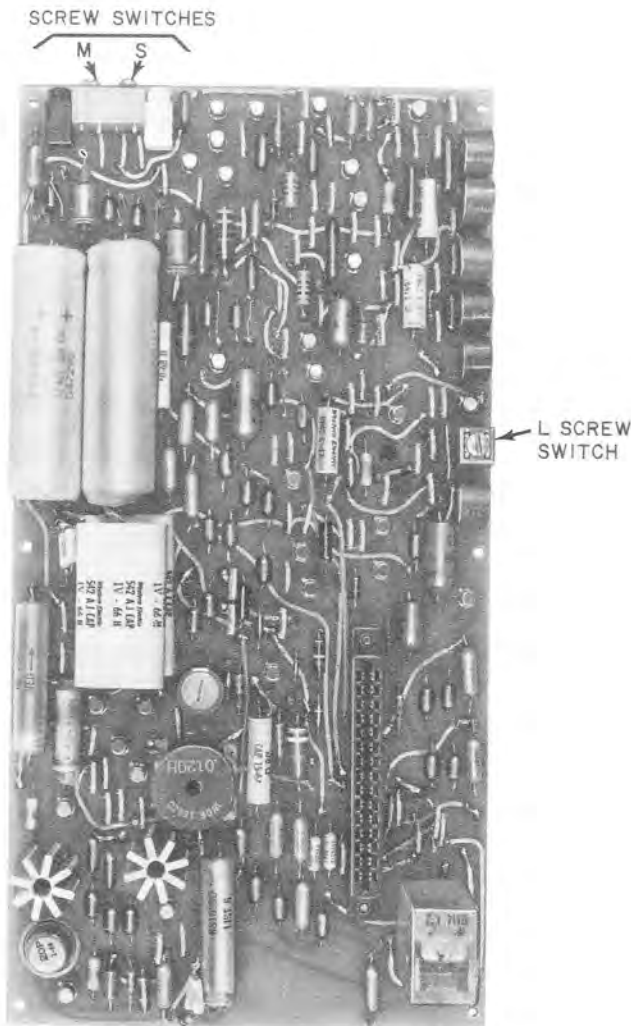

Fig. 16—939A Cable Equalizer
**3.17** Select FW1 or FW2 circuit pack (Fig. 6), 939A or B cable equalizer (Fig. 16 and 17), or 877A or B network (Fig. 18) according to the type of service, length, type, and gauge of cable as outlined in Tables B, C, and D. Use an FW3 circuit pack if the 2C Video Telephone Station is for a single line installation behind a 101 ESS PBX or is used as a maintenance set at a No. 5 crossbar central office.
**3.22** The 939A or B cable equalizers (Fig. 16 and 17) have screw switches marked S (Short), M (Medium), and L (Long). These switches are opened or closed depending on the length, type, and gauge of the cable as shown in Tables C and D. To open a switch, turn the screw two turns counterclockwise. To close a switch, turn the screw clockwise until tight.